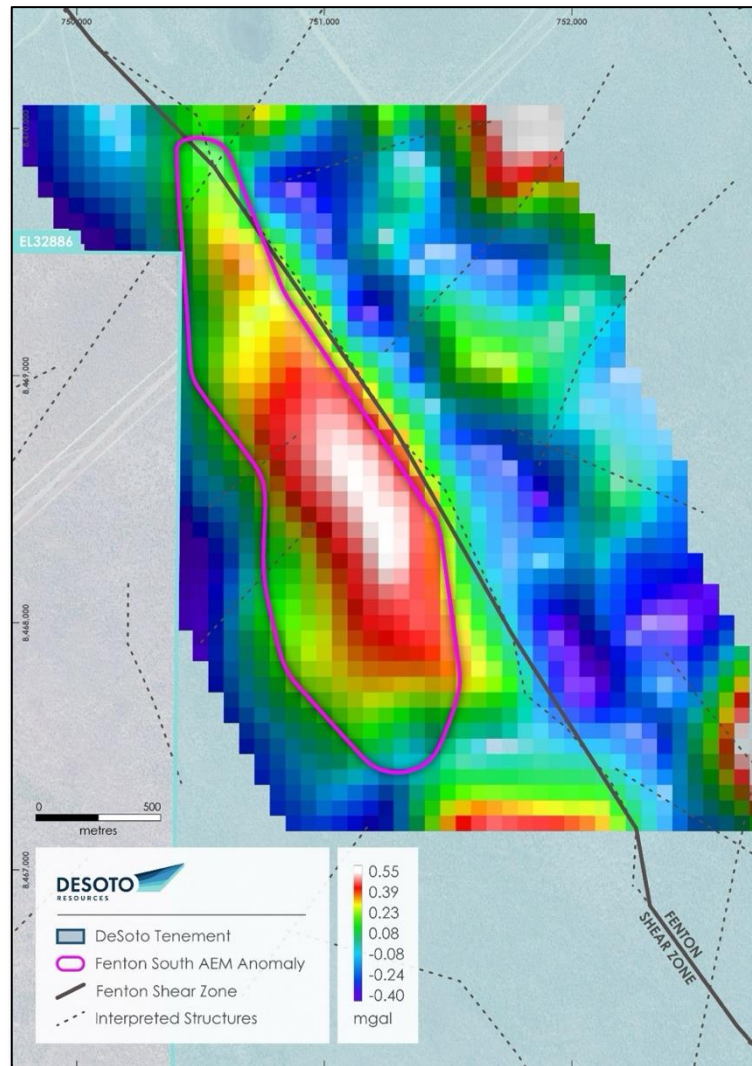

Figure 4 – Gravity contour data and major structures at Fenton South showing the coincident gravity (in mgal) and AEM anomaly.
- The gravity data indicates a 1mgal residual gravity anomaly coincident with the Fenton South AEM anomaly and slightly offset from a moderate intensity magnetic anomaly that potentially defines the core of a fold (Figure 4).